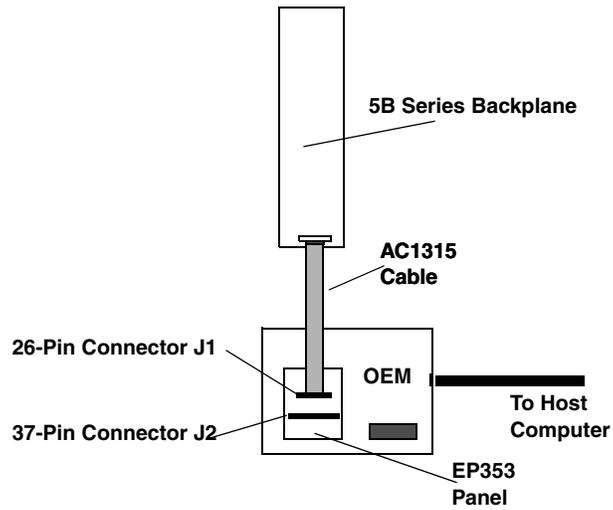

Figure 35: Connecting the AC1315 Cable to the 5B Series Backplane
- Plug the other end of the AC1315 cable into the 26-pin connector on the 5B Series backplane, as shown in Figure 35.